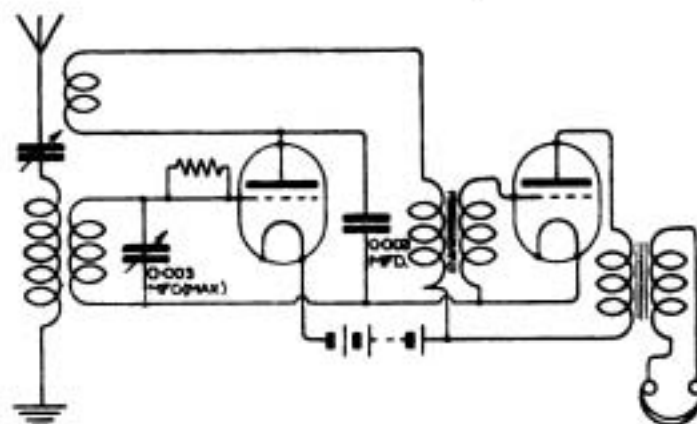

Fig. 2.
(1) Fig. 2 gives one of many possible arrangements. The filament battery and resistances not shown.
(2) Yes, if you limit yourself to the two coils of the loose coupler, but put a .003 condenser across